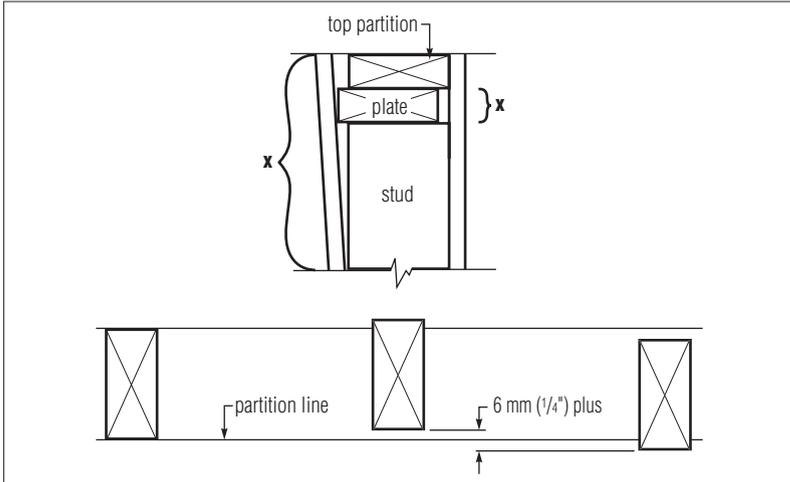

Fig. 10
**Cause:** Due to misaligned top plate and stud, hammering at points "X" (Fig. 10) as panels are applied on both sides of partition will probably result in nailheads puncturing paper or cracking board. Framing members more than 6 mm (1/4") out of alignment with adjacent members make it difficult to bring panels into firm contact with all nailing surfaces.